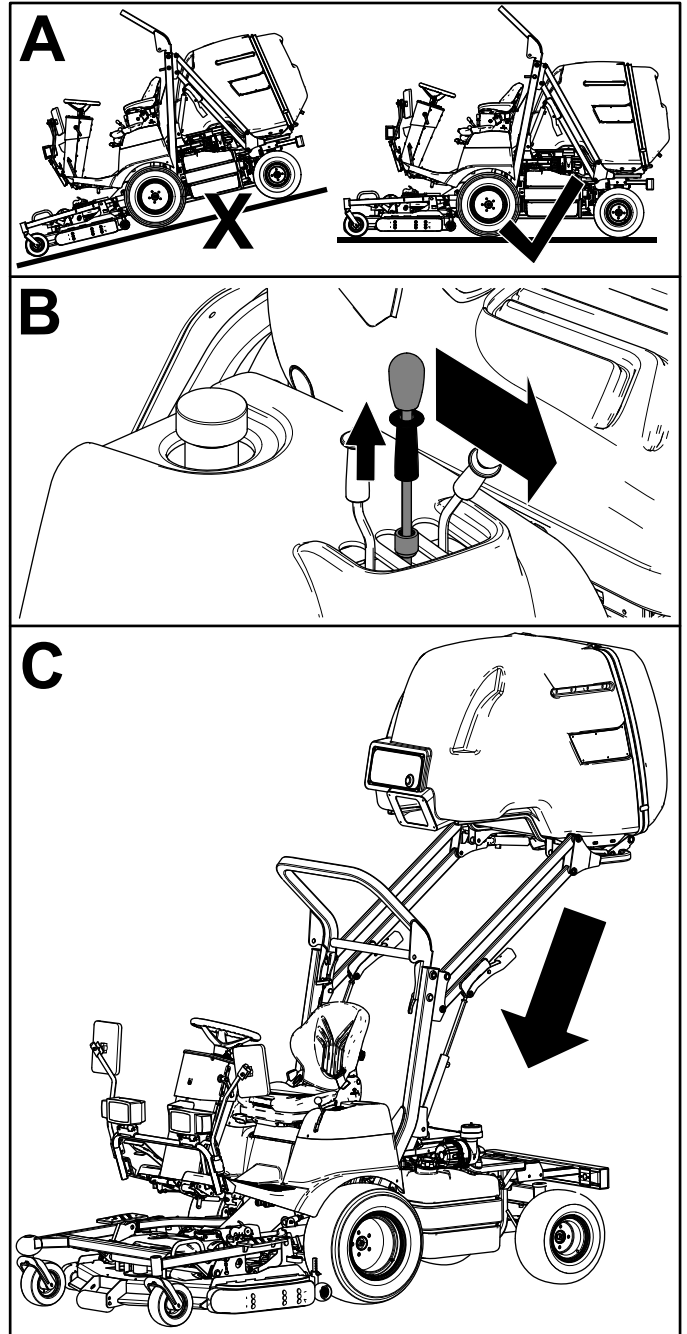

Figure 24
2. Pull the lock collar on the hopper lift lever up and move the lever fully forward to lower the hopper (Figure 24).